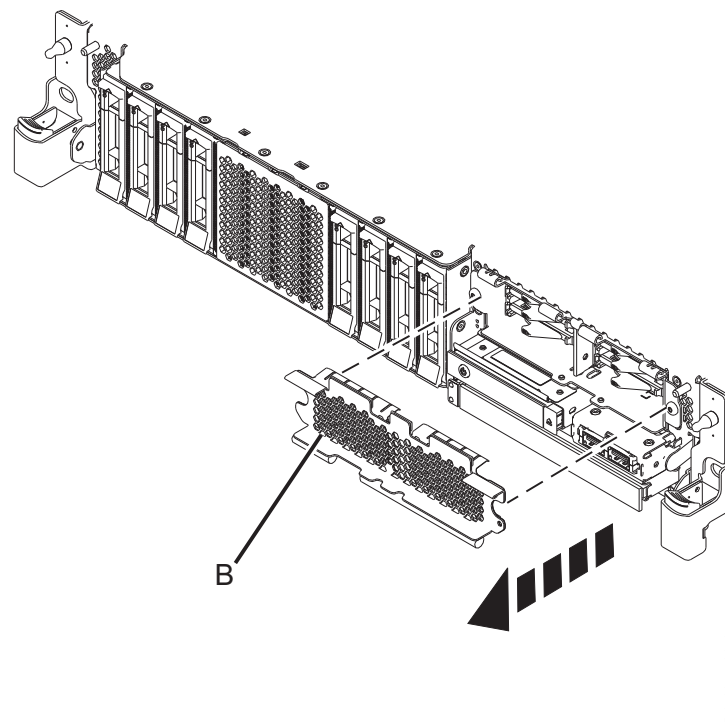

Figure 76. Removing the SSD cage cover to access the SSD slots in an expanded function system
13. To access the SSD slots, remove the perforated plate (B) covering the SSD cage as shown in Figure 76.